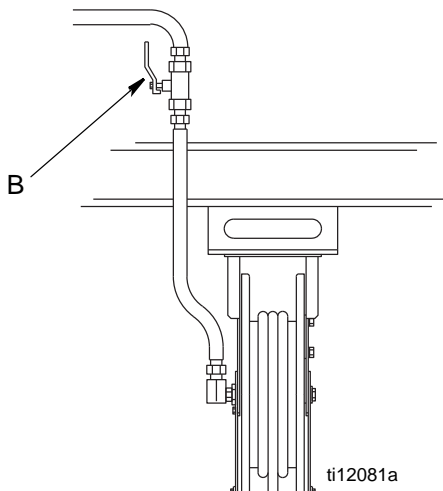

FIG. 4
5. Slowly open the shutoff valve (B, FIG. 4) at the dispense position. Flush out a sufficient amount of oil to ensure that the entire system is clean. Close the valve.